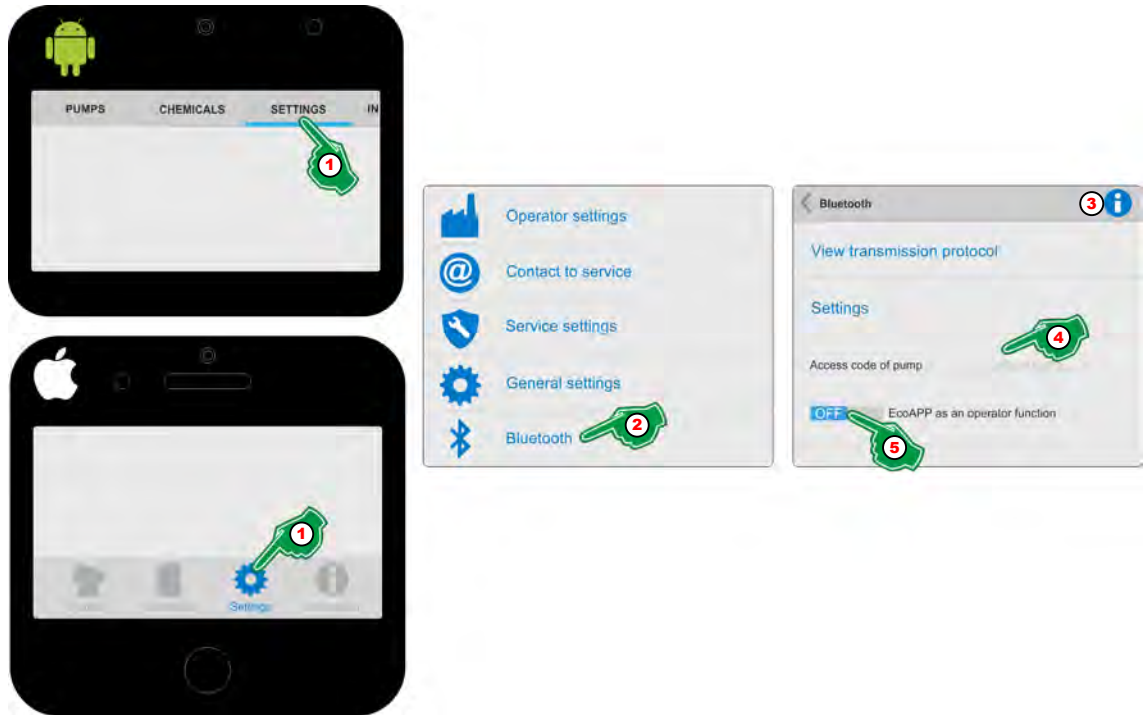

Fig. 18: Set up access 'EcoAPP'
1. Select [Settings] (Fig. 18, Pos. 1).
2. Select [Bluetooth] (Fig. 18, Pos. 2).
3. With the selection of the [Info] (Fig. 18, Pos. 3), the symbol display will be:
4. Enter the 'access code' for the pump (Fig. 18, Pos. 4).